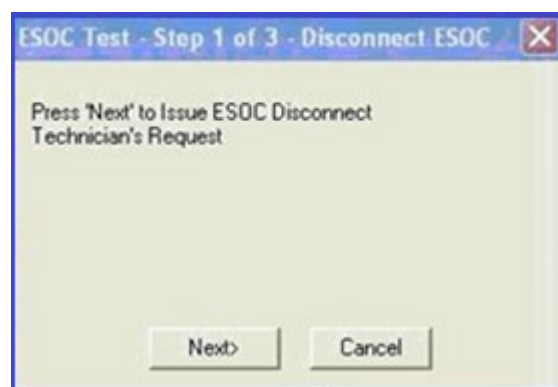

Figure 1 Disconnect ESOC Dialogue Box
- 3.1. At the WESTLOCK Technician's Workstation, click in the Controls menu and select 'ESOC Test Wizard'. The 'Disconnect ESOC' dialogue box is displayed (See Figure 1):